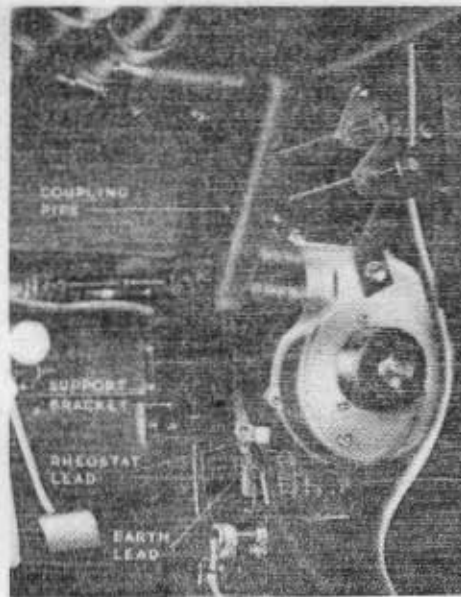

Fig.47. Heater and De-mist Fan details.
31. Remove the upper of the two 2 B.A. bolts, washers and nuts securing the fan bracket to the inboard support bracket, then fit a "Lucas" 1/2in. dia. cleat to the adjacent heater bottom pipe. Secure the pipe to the fan bracket with the 2 B.A. bolt, shake-proof washer and nut, fitting the terminal tag of the fan lead under the head of the bolt, thus "earthing" the fan, see Fig.47.